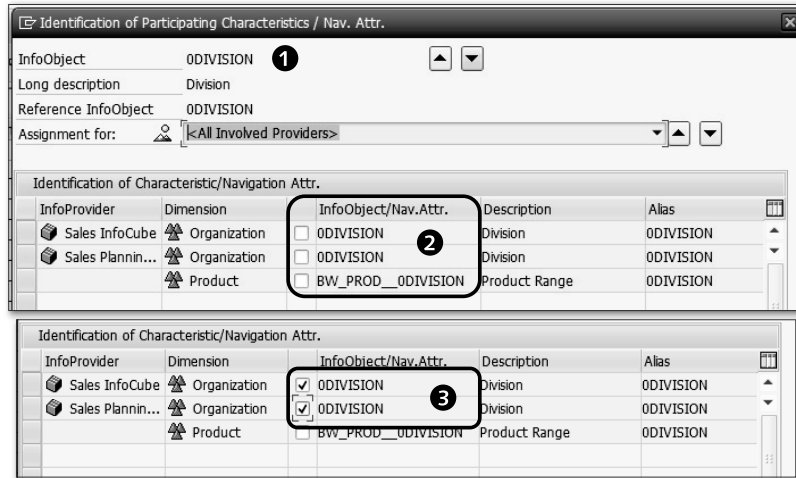

Figure 6.11 Edit MultiProvider: Identifying Characteristics from Multiple InfoCubes
Now let's discuss the options for including characteristics in a MultiProvider, such as including characteristic ODIVISION (see ❶ of Figure 6.11). ODIVISION from the SALES INFOCUBE can be matched with ODIVISION and BW_PROD_ODIVISION (ODIVISION is the navigation attribute of BW_PROD) from the SALES PLANNING CUBE ❷. You need to decide whether you want to match the ODIVISION characteristics of InfoCube BWSD_C01 with the ODIVISION characteristics of InfoCube BW_PLAN or with the ODIVISION navigation attribute of BW_PROD. Select ODIVISION characteristics from both of the InfoCubes ❸.